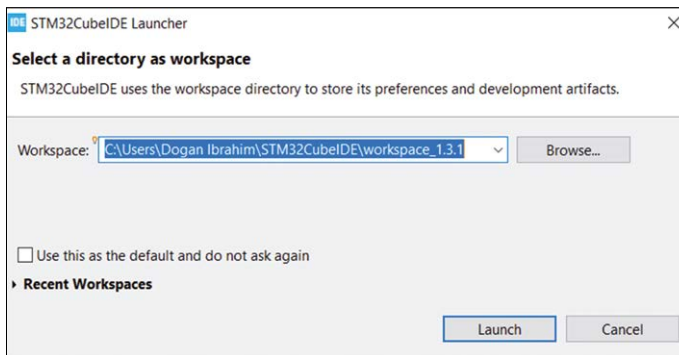

Figure 5.3: Workspace screen.
- Figure 5.3 shows the workspace screen. Click **Launch** to accept it.